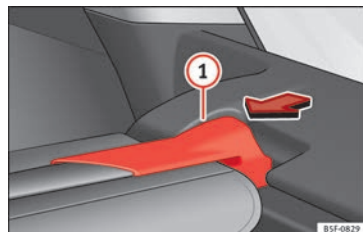

Fig. 166 In the luggage compartment: removing the rear shelf.
- Press the rear shelf support » **Fig. 166** ① in the direction of the arrow.
- Engage the support of the rear shelf »» Fig. 166 ① in the right housing.
- Check that the support »» Fig. 166 ① is properly engaged.